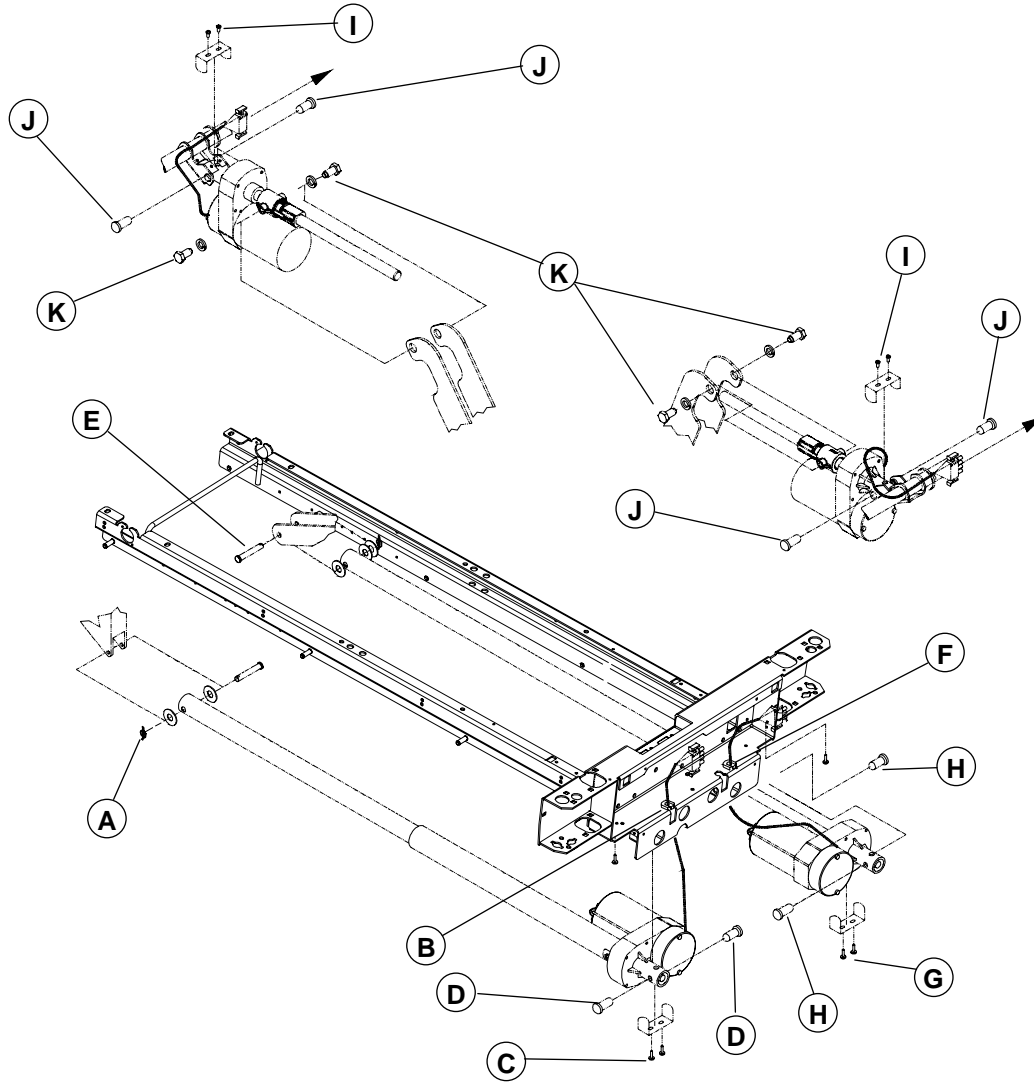

Figure 4.3B
4. Using long nose pliers, remove the rue ring cotter/washers/clevis pin (E fig. 4.3B, page 30) linking the thigh section lever arms to the thigh actuator tube.
7. Using a no. 2 Phillips screwdriver, remove the two screws (D) holding the micro switch activator to the thigh section. Install the activator on the new thigh section.
Unless otherwise indicated, refer to figure 4.3B on page 30 for the illustration of this procedure reference points.